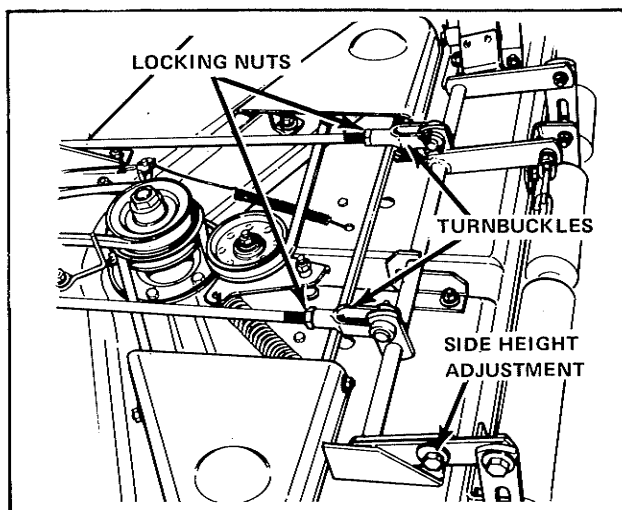

Figure 42. Leveling 42'' Mower
5. If adjustment is needed, remove the pins holding the bail assembly turnbuckles to the height adjustment arm (see figure 42). Loosen locking nuts on turnbuckles.
2. If the difference between the two measurements is greater than 1/8 inch (3 mm), loosen the capscrew in the slotted hole on the left rocker arm (see figure 42).